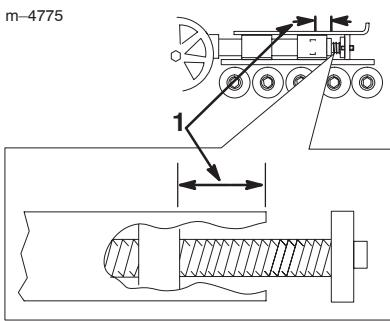
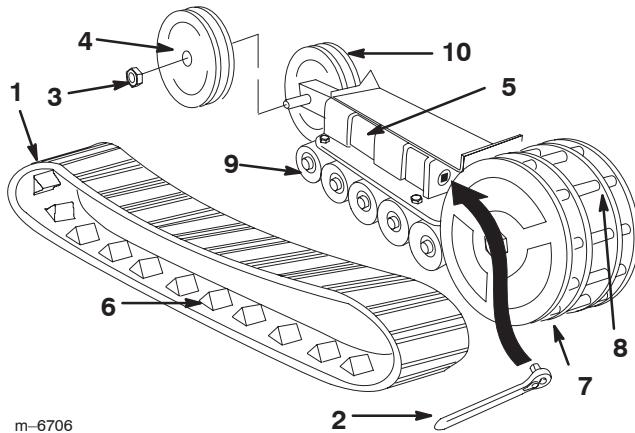

Figure 35
Figure 38
Check and adjust the track tension every 100 operating hours. There should be 2-3/4 inches (7 cm) between the tension nut and the back of the tension tube (Fig. 35). If not, adjust the track tension using the following procedure:
4. Using a 1/2 inch drive socket (Fig. 38), turn the tensioning screw counter-clockwise until the distance between the tension nut and the back of the tension tube (Fig. 35) is 2-3/4 inches (7 cm).
11. Turn the tensioning screw counter-clockwise until the distance between the tension nut and the back of the fork tube (Fig. 35) is 2-3/4 inches (7 cm).
5. Push the tension wheel toward the rear of the unit to move the tension tube against the frame (Fig. 38). (If it does not touch the frame, continue turning the tensioning screw until it does.)
6. Remove the nut securing the outer tension wheel and remove the wheel (Fig. 38).
7. Remove the track (Fig. 38).
8. Remove the nut securing the inner tension wheel and remove the wheel (Fig. 38).
12. Install the inner tension wheel and secure it with the nut removed previously (Fig. 38).
14. Install the new track, ensuring that the lugs in the track fit between the spacers in the middle of the drive sprocket (Fig. 38).
15. Install the outer tension wheel and secure it with the nut removed previously (Fig. 38).
17. Turn the tensioning screw counter-clockwise until the distance between the tension nut and the back of the tension tube (Fig. 35) is 2-3/4 inches (7 cm).